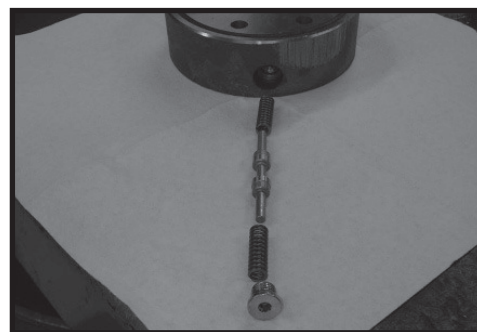

Figure 61
20. If shuttle valve components items #21, #22, #23, #24 were removed from the end cover (2) turn a plug (21) with a **new** o-ring (22), loosely into one end of the valve cavity in the end cover. Insert a spring (23) the valve (24) and the second spring (23) into the other end of the valve cavity. Turn the second plug (21) with a **new** o-ring (22) loosely into the end cover valve cavity. 3/16 inch Allen wrench required. SEE FIGURE 61.